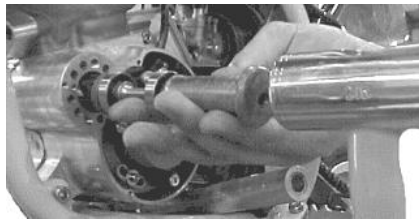

Figure 32
15. Using a liberal amount of grease on the outside seal, bearings and inside of case, reinstall bearing assembly by using a 0.500" ID by 1.000" OD steel tube 2" long and tap on end of tube per figure 32.